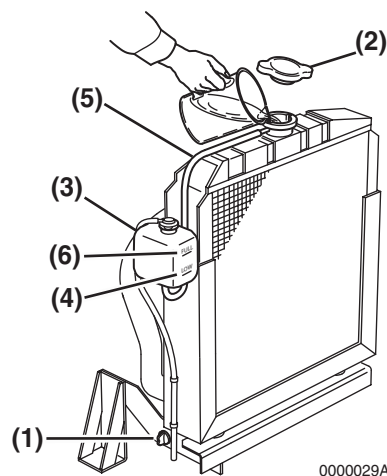
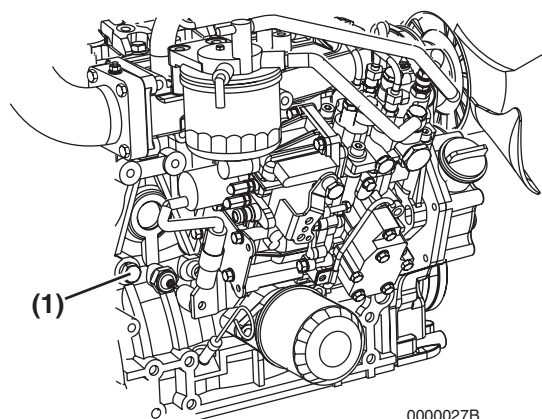
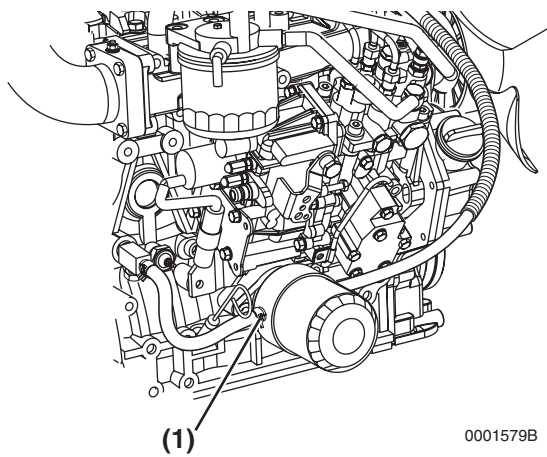

Figure 4-6
Figure 4-7
Figure 4-8
Fill the radiator and reserve tank as follows. This procedure is for filling the radiator for the first time or refilling it after it is flushed. Note that a typical radiator is illustrated (**Figure 4-6**).
1. Check to be sure the radiator drain plug is installed and tightened or the drain cock (**Figure 4-6, (1)**) is closed. Also make sure the coolant drain plug (**Figure 4-7, (1)**) in the cylinder block is closed or the oil coolant hoses (**Figure 4-8, (1)**) are installed at the oil cooler.
2. Remove the radiator cap (**Figure 4-6, (2)**) by turning it counter-clockwise about 1/3 of a turn.
4. Reinstall the radiator cap (**Figure 4-6, (2)**). Align the tabs on the back side of the radiator cap with the notches on the engine coolant filler port. Press down and turn the cap clockwise about 1/3 of a turn.
5. Remove the cap on the reserve tank (**Figure 4-6, (3)**), and fill it to the LOW (COLD) mark (**Figure 4-6, (4)**) with engine coolant. Reinstall the cap.
6. Check the hose (**Figure 4-6, (5)**) that connects the reserve tank (**Figure 4-6, (3)**) to the radiator. Be sure it is securely connected and there are no cracks or damage. If the hose is damaged, the engine coolant will leak out instead of going into the reserve tank.
7. Run the engine until it is at operating temperature. Check the level of engine coolant in the reserve tank. When the engine is running and the engine coolant is at normal temperature, the coolant level in the tank should be at the FULL (HOT) mark (**Figure 4-6, (6)**). If the engine coolant is not at the FULL (HOT) mark (**Figure 4-6, (6)**), add additional engine coolant to the reserve tank to bring the level to the FULL (HOT) mark.